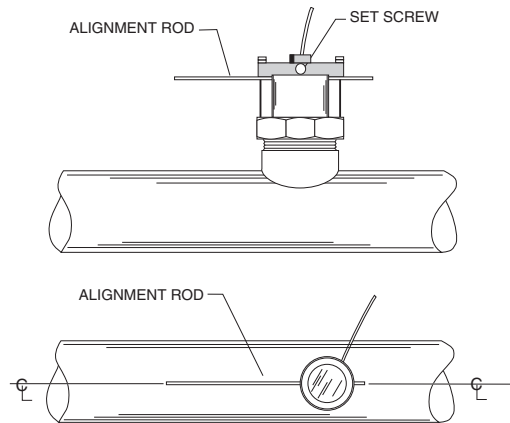

Figure 2: Alignment of Flow Sensor 220BR and 220SS
1. Loosen the positioning collar set screws with a 3/32 inch Allen wrench. Place the alignment rod through the sight holes in the flow sensor. See *Figure 2*. Using the alignment rod as a guide, align the flow sensor so the flow label arrow matches the pipe flow direction and the alignment rod is exactly parallel to the pipe. This procedure aligns the impeller directly into the fluid flow.